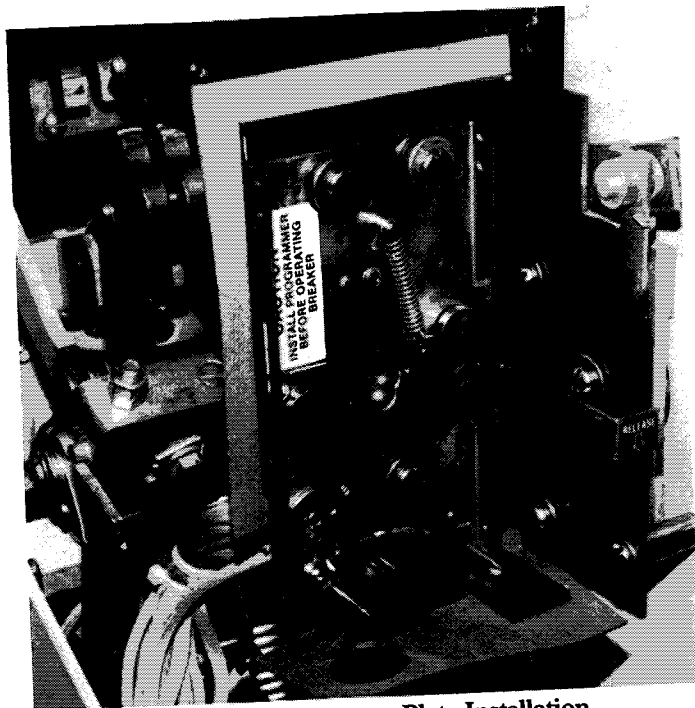

Fig. 3-17. Programmer Plate Installation
Assemble the programmer bracket to the mounting bracket as shown in Fig. 3-17.
**CAUTION:** Adapter bracket must be installed onto harness plug as shown in Fig. 3-17. Failure to do so will result in harness plug failure and the programmer will not provide protection.